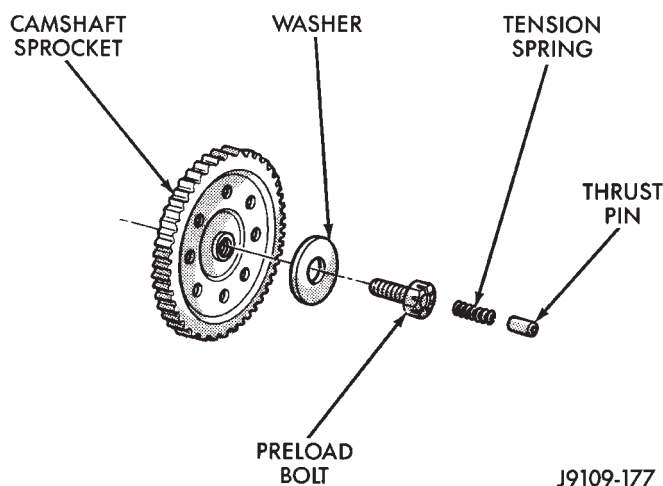

Fig. 7 Camshaft Sprocket Preload Bolt
(1) Apply Mopar Silicone Rubber Adhesive Sealant to the keyway in the crankshaft and insert the key. With the key in the keyway on the crankshaft, install the assembly on the crankshaft and camshaft.
(2) Install the camshaft sprocket retaining preload bolt and washer (Fig. 7). Tighten the preload bolt to 108 N·m (80 ft. lbs.) torque.